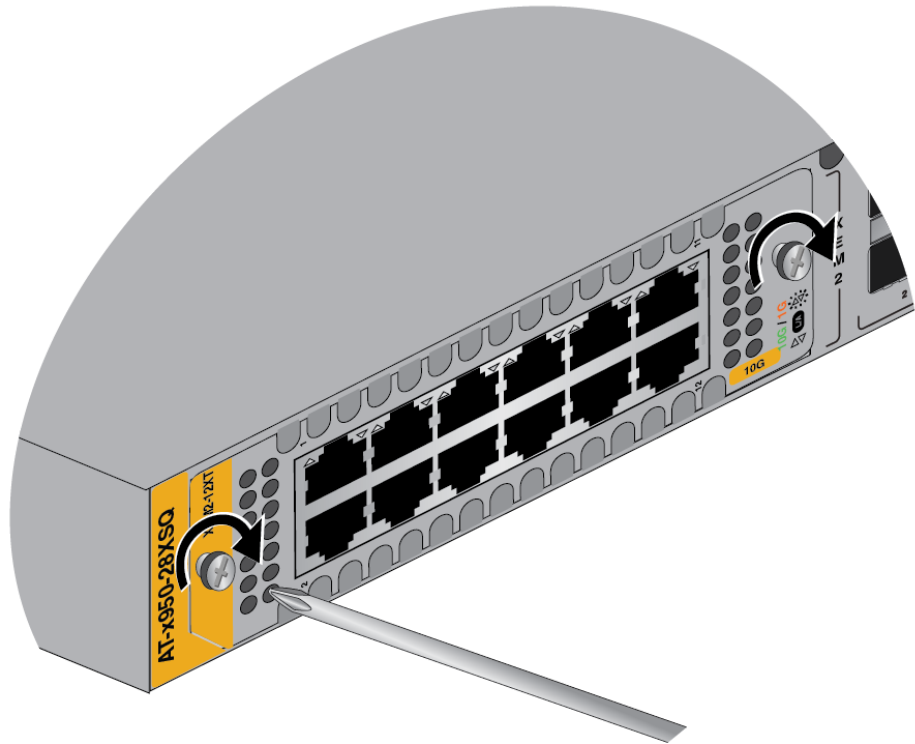

Figure 77. Tightening the Two Captive Screws on the Ethernet Line Card
6. Tighten the two captive screws on the card to secure it in the switch. Refer to Figure 77 on page 138.